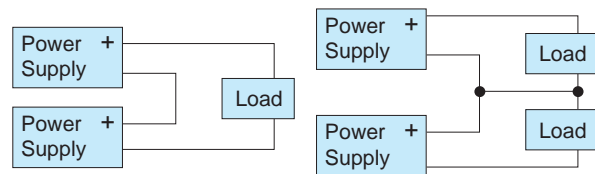

Fig.3.1 Examples of series operation
■ Parallel operation is show in Fig.3.1.